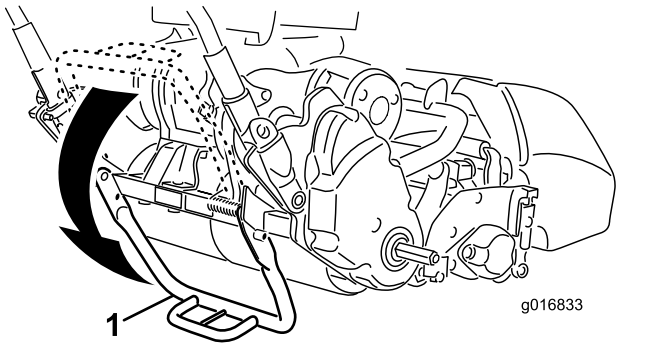

Figure 9
1. Push the kickstand down with your foot in the **center of the kickstand** and pull up on the lower center machine handle until the kickstand has rotated forward, over center (Figure 9).